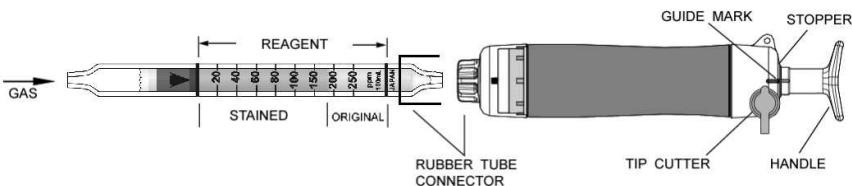

Fig.1
- ② Insert the detector tube into the aspirating pump securely as shown in Fig.1. (Arrow mark shall point to the pump.)
- ③ Align the guide marks on the shaft and stopper of the aspirating pump.
- ④ Pull the pump handle at a full stroke until it locks and wait for 1 minute or until the completion of sampling is confirmed with the flow indicator of the pump. (See descriptions about the flow indicator in the instruction manual of the pump.)
- ⑤ On completion of sampling, read the scale at the maximum point of the stained layer.